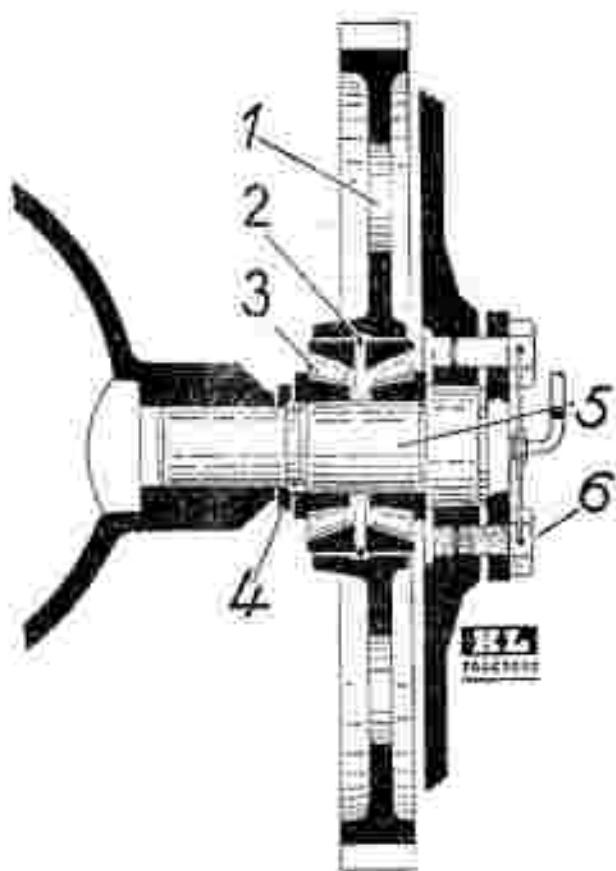
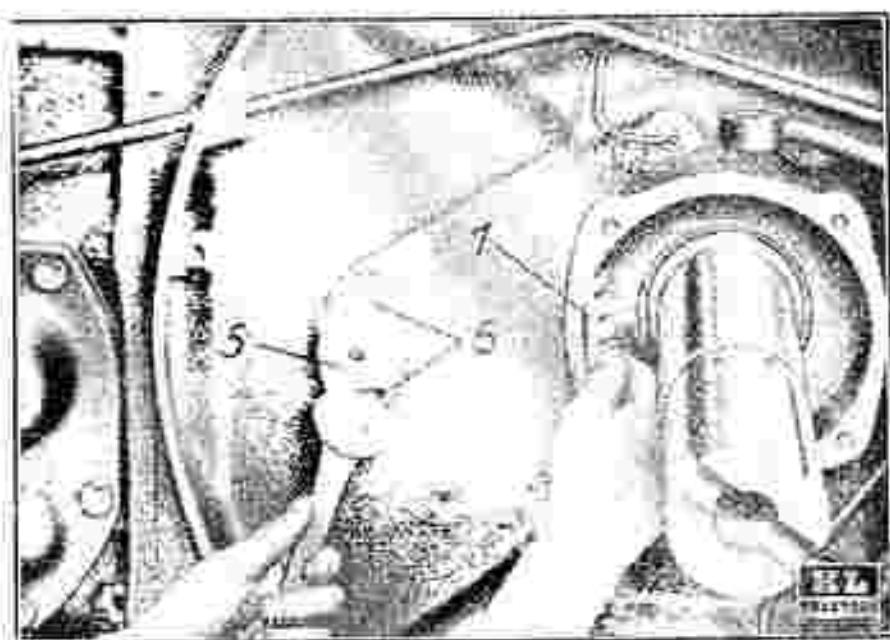

Fig. 69. Intermediate idler gear.
Fig. 70. Adjusting idler gear bearing.
INTERMEDIATE IDLER GEAR - The intermediate idler gear Fig. 69, transmitting the engine effect from the ring gear to the transmission, is running on tapered roller bearings, which must be inspected should the overhauling of the clutch take place. For taking up end play, the lock wire must be removed from the adjusting screws (6), Fig. 69, and Fig. 70, and these screws alternately and evenly tightened.